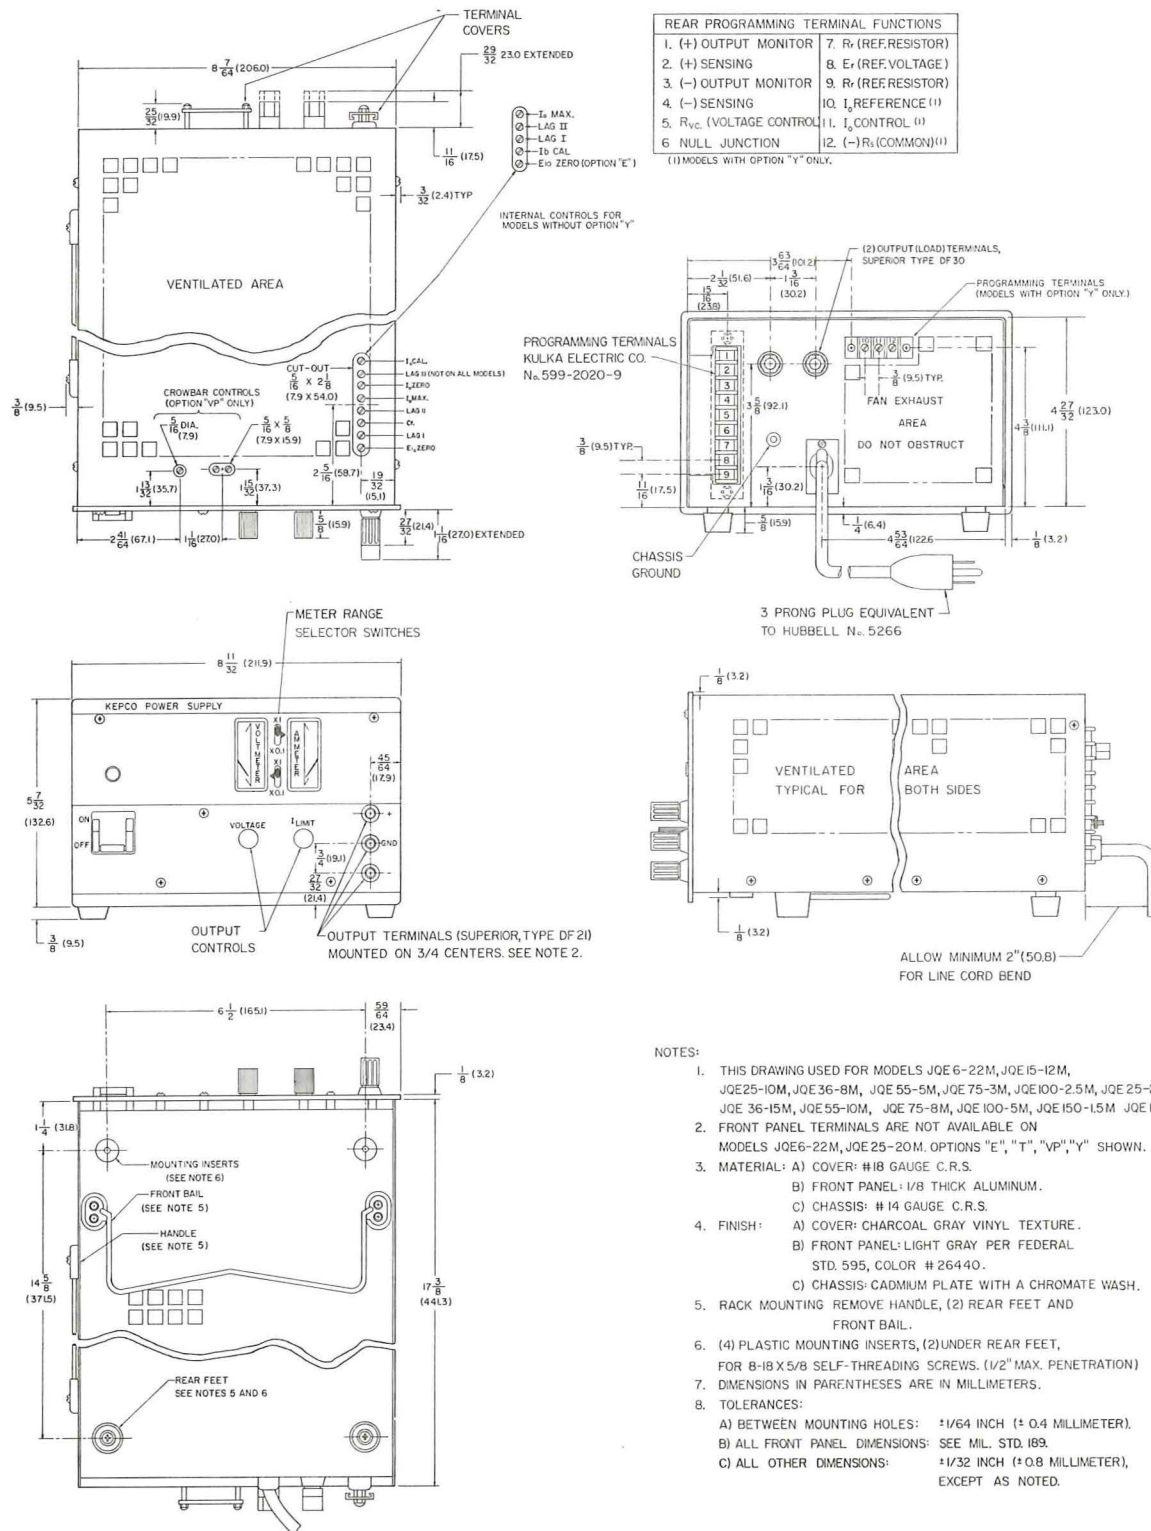

FIG. 1-3 MECHANICAL OUTLINE DRAWING
- a) DIMENSIONS AND FINISH: Please refer to the "Mechanical Outline Drawing," FIG. 1-3.
2-10 INSTALLATION (Refer to FIG. 1-3 "Mechanical Outline Drawing")